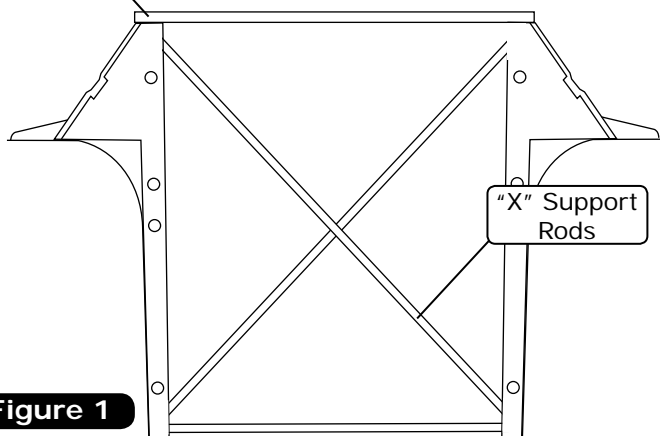

Figure 1
6. Remove the "X" support rods from the core support (if equipped) (discard). **NOTE: If the vehicle is equipped with "X" support rods as illustrated in Figure 1, below, these must be removed from the core support in order to make room for the condenser.**